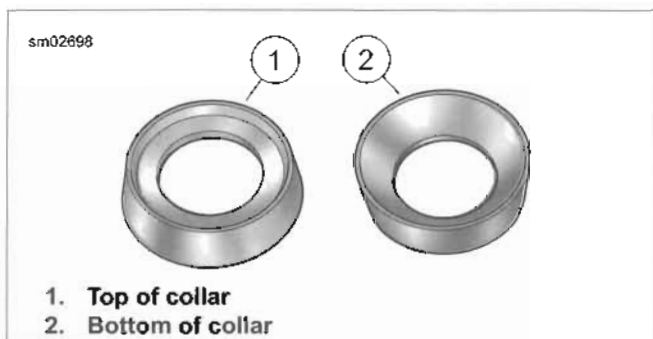

Figure 7-50. Collar
See Figure 7-50. In next step, be sure top of collar (1) is facing up.